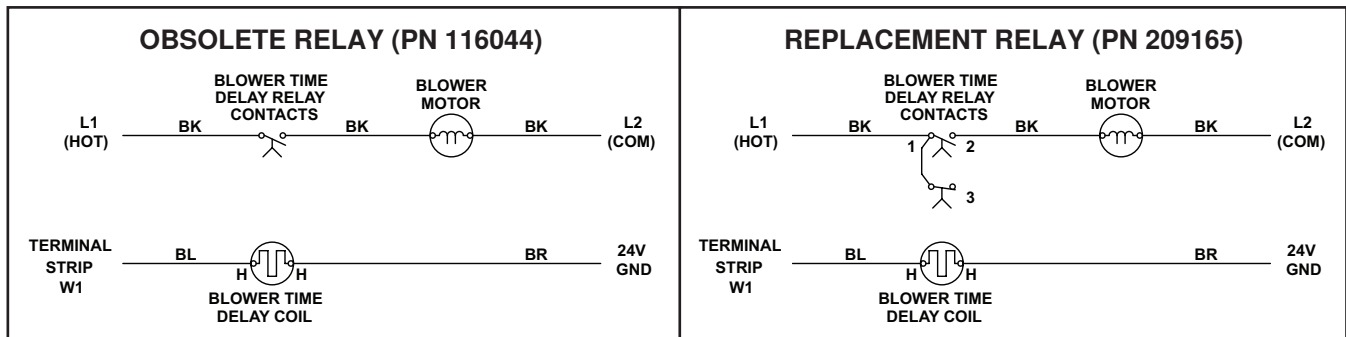

Figure 21. Wiring Connections for Replacement Relay 209165
5. Reconnect wires to replacement time delay relay in accordance with wiring diagram shown in **Figure 21**.